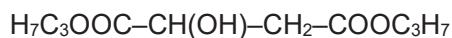

Fig. 11.2
- (b) The structure of compound **B**, a diester, is shown in Fig. 11.2.